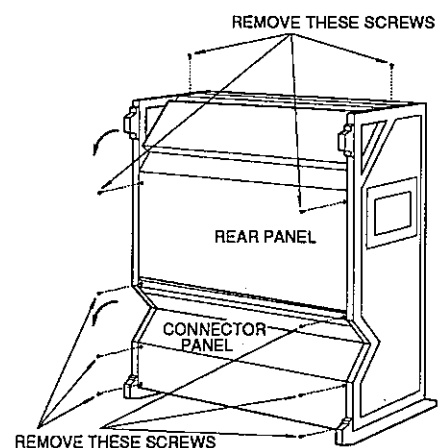

Figure 5-2
1. Open the Rear Panel of the machine as shown in **Figure 5-2** to inspect the TRANSPORT CONTROL PCB assembly (PB-4HHA).
2. Connect the jumper wires on the VOLTAGE SELECT PCB assembly in accordance with **Figure 5-2** to select the appropriate Power Supply voltage.